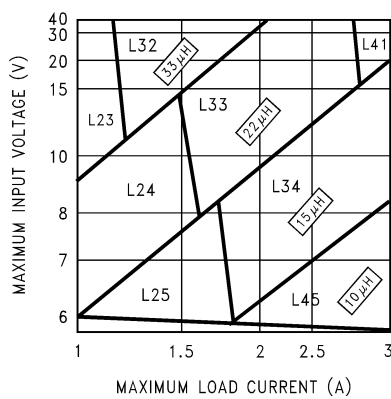
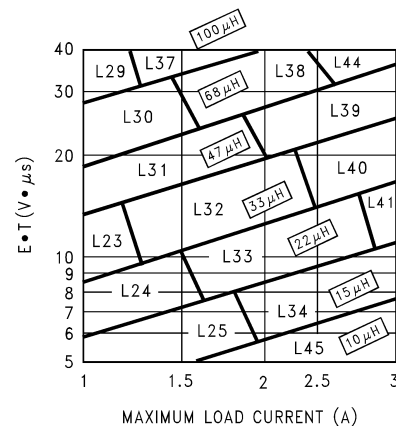

Figure 21. LM2676-3.3
Figure 24. LM2676-ADJ
Step 3: Determine the inductor required by using one of the four nomographs, Figure 21 through Figure 24. Table 1 provides a specific manufacturer and part number for the inductor.
Step 5: Determine an input capacitor from Table 8 or Table 9 for fixed output voltage applications. Use Table 3 or Table 4 to find the specific capacitor type. For adjustable output circuits select a capacitor from Table 3 or Table 4 with a sufficient working voltage (WV) rating greater than $V_{in\ max}$, and an rms current rating greater than one-half the maximum load current (2 or more capacitors in parallel may be required).
Step 3: Use the nomograph for the 3.3V device, Figure 21. The intersection of the 16V horizontal line ($V_{in\ max}$) and the 2.5A vertical line ($I_{load\ max}$) indicates that L33, a 22 μ H inductor, is required.
Step 3: To use the nomograph for the adjustable device, Figure 24, requires a calculation of the inductor Volt•microsecond constant (E•T expressed in V• μ S) from the following formula:
Using Figure 24, the intersection of 27V• μ S horizontally and the 2A vertical line (I_{load} max) indicates that L38 , a 68 μ H inductor, should be used.
When using the adjustable device in low voltage applications (less than 3V output), if the nomograph, Figure 24, selects an inductance of 22 μ H or less, Table 12 and Table 13 do not provide an output capacitor solution. With these conditions the number of output capacitors required for stable operation becomes impractical. It is recommended to use either a 33 μ H or 47 μ H inductor and the output capacitors from Table 12 or Table 13.